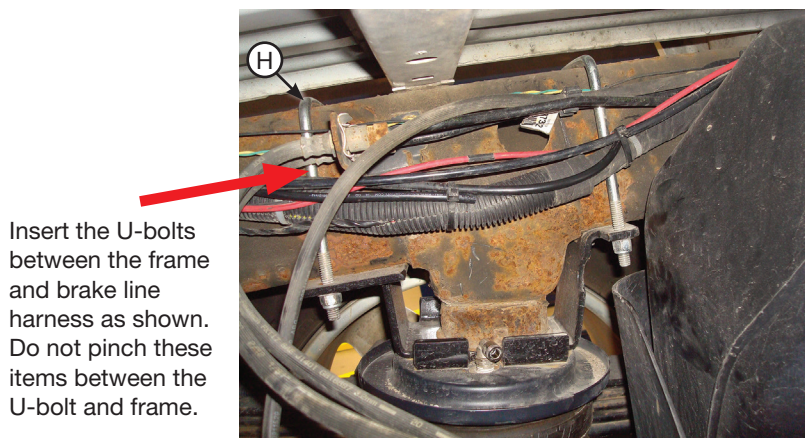

*fig. 12*
- Set spacer (X) between the frame and heat shield and reattach the heat shield with the stock bolt previously removed (Fig. 12).